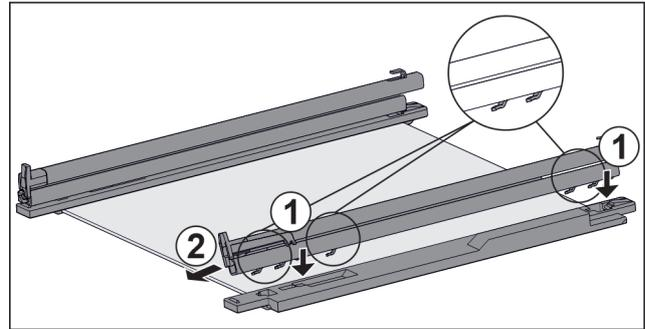

Fig. 48 Glass shelf with rails and retaining parts
- ▶ Place rail hooks onto the openings of the **left** retaining part. Fig. 48 (1)
- ▶ Push rail forwards. Fig. 48 (2)
- ▶ Place rail hooks onto the openings of the **right** retaining part. Fig. 48 (1)